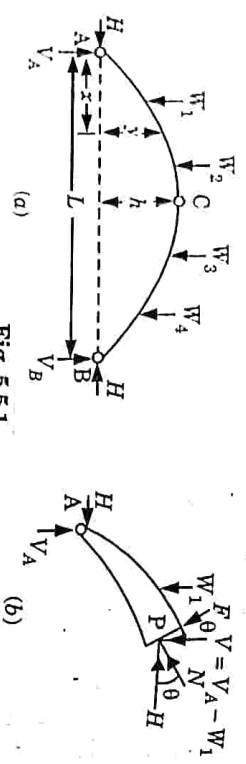

Fig. 5.5.1
1. Let the three hinged arch shown in the Fig. 5.5.1 is subjected to a number of loads  $W_1, W_2, W_3, \dots$  etc.
- i. From Fig. 5.5.1, considering the origin at the left hand hinge A, the equation of parabola can be considered as